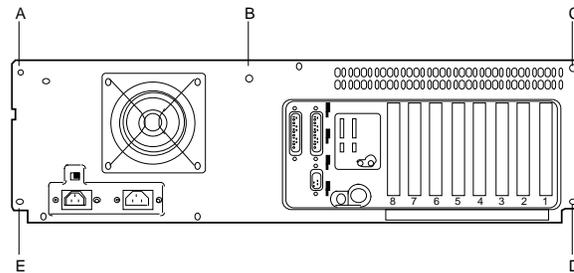

Figure A-1. 6386/25 WGS Outside Cover Removal
3. Loosen the five main cover screws (A,B,C,D,E) on the back panel as shown in Figure A-1.